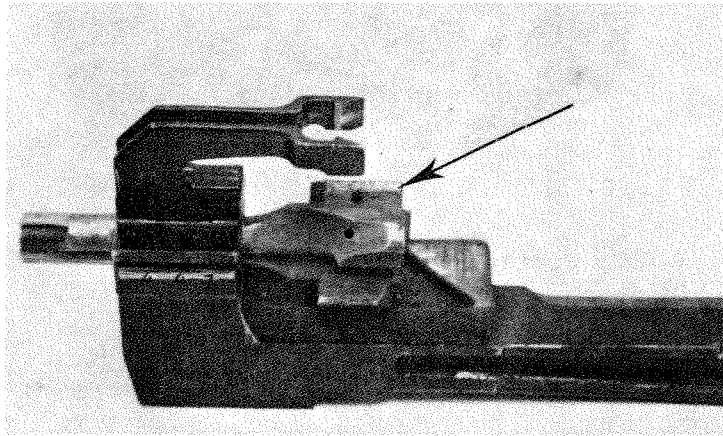
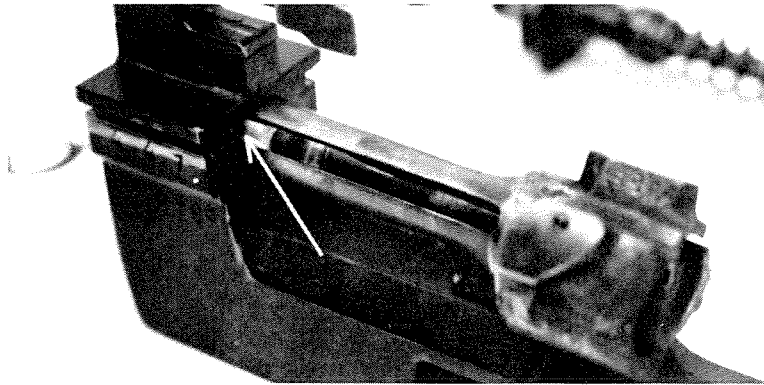

Figure 3-11. Bolt rotated to rear of the sliding cam.
Figure 3-12. Firing pin and bolt notch aligned with sliding cam notch and bolt pulled forward.
h. To separate the bolt and firing pin from the sliding cam, rotate the bolt and firing pin to the rear of the cam in a counter-clockwise motion (fig. 3-11). Pull the bolt and firing pin forward while aligning the notch on the firing pin with the notch on the sliding cam (fig. 3-12).